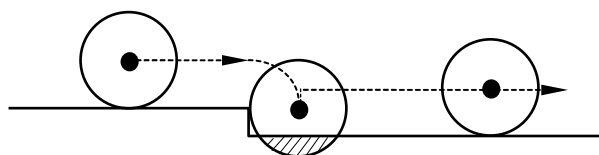

Fig. 3-55 Over-cutting (Shaded Area)
7. When cutting a stepwise work-piece with a step value smaller than the tool radius, an over-cutting alarm is generated as shown in Figure 3-55.